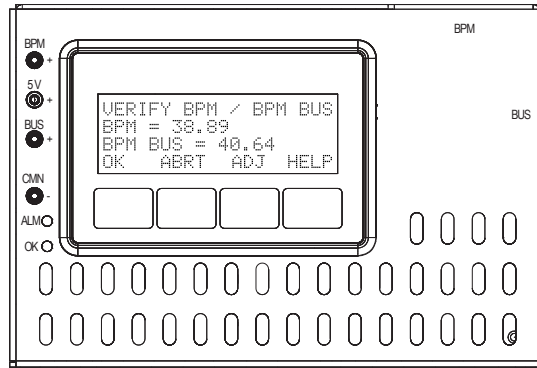
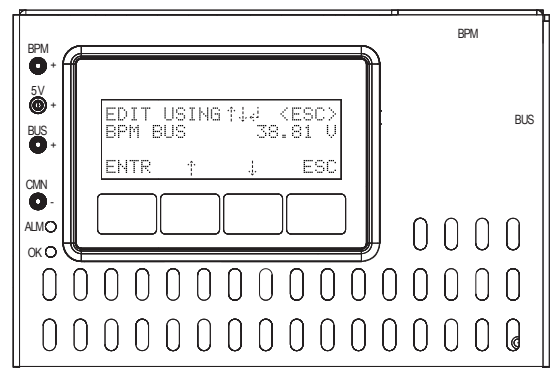

Fig. 5-6, Verifying BPM / BPM BUS
Fig. 5-8, BRD Screen - Voltage Adjustment
7. Use the previously on-site calibrated DMM to verify BPM voltage. Place meter's common lead in the CMN- test point on the BRD, place the meter's positive lead in the BPM+ test point, and verify the meter displays between 30 and 41VDC. Verify the BRD displayed value. If the difference between the DMM and BRD readings are greater than 0.03VDC, press the **ADJ** softkey on the BRD to adjust the voltage closer to what the DMM measures. Use the arrow softkeys to adjust the displayed values. If the difference is within spec, press the **OK** button. (See Fig. 5-6 to Fig. 5-8 for reference.)